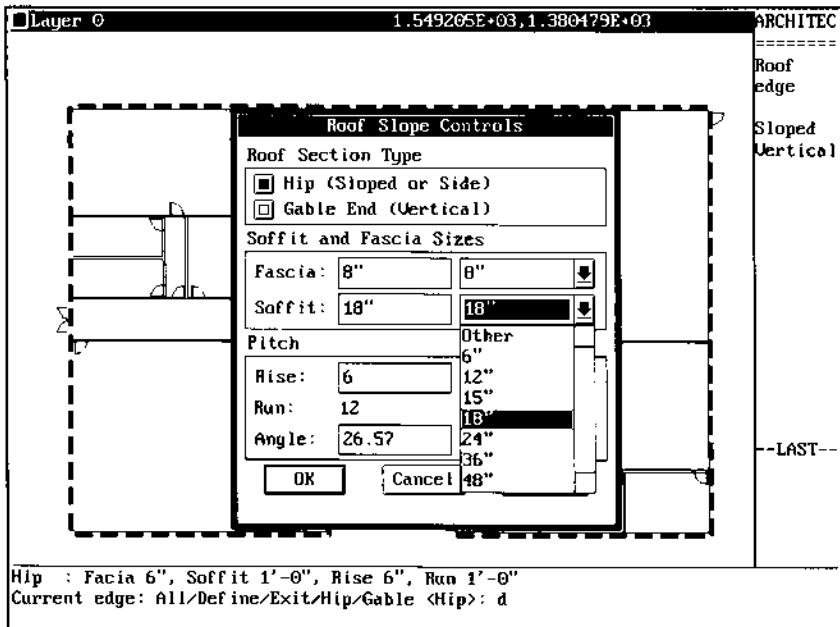

Figure 8.
6. Select a Soffit width of 18" from the Soffit popup list as shown in Figure 8, or enter a value in the Soffit: edit box.